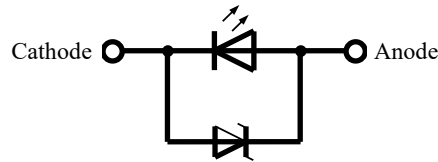

Figure 12. Example of the Internal Circuit for an LED with a Zener diode
- For LED No. 7 (NFSA172C, amber), a photovoltage was generated in the reverse direction. Nichia assumes this was due to the photovoltage generated in the protection device (i.e. Zener diode) within the LED. As mentioned above, an amber LED has a higher phosphor concentration; most of the external light is converted into yellow or red light by the phosphor before reaching the chip. This converted light does not have a photovoltage generated in the chip if it is a blue chip; this is because the energy for yellow or red light is smaller than that for blue light. The chip used within LED No. 7 was a blue chip; Nichia assumes a photovoltage was not generated in the chip due to this reason. However, a photovoltage can be generated in a Zener diode since the energy band gap for a Zener diode is smaller than that for yellow or red light. As shown in Figure 12, a Zener diode is connected in parallel with reverse polarity with the LED to function as a protection device; in the Zener diode, the photovoltage is generated in reverse polarity. LED No. 2 (NCSA170F) is also an amber LED with a Zener diode; however, that Zener diode has a reflecting material covering it, that is why no photovoltage was generated in the reverse direction.